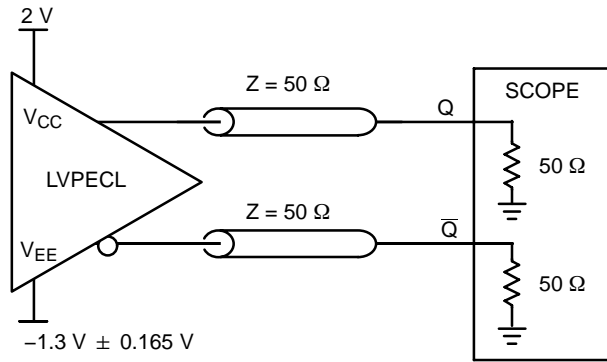

Figure 4. Output Load AC Test Circuit (Split Power Supply)
2. Outputs terminated with 50Ω to $V_{CC} - 2.0 \text{ V}$. See Figures 4 and 12.
4. Output terminated with 50 Ω to $V_{CC} - 2.0 \text{ V}$. See Figures 4 and 12.